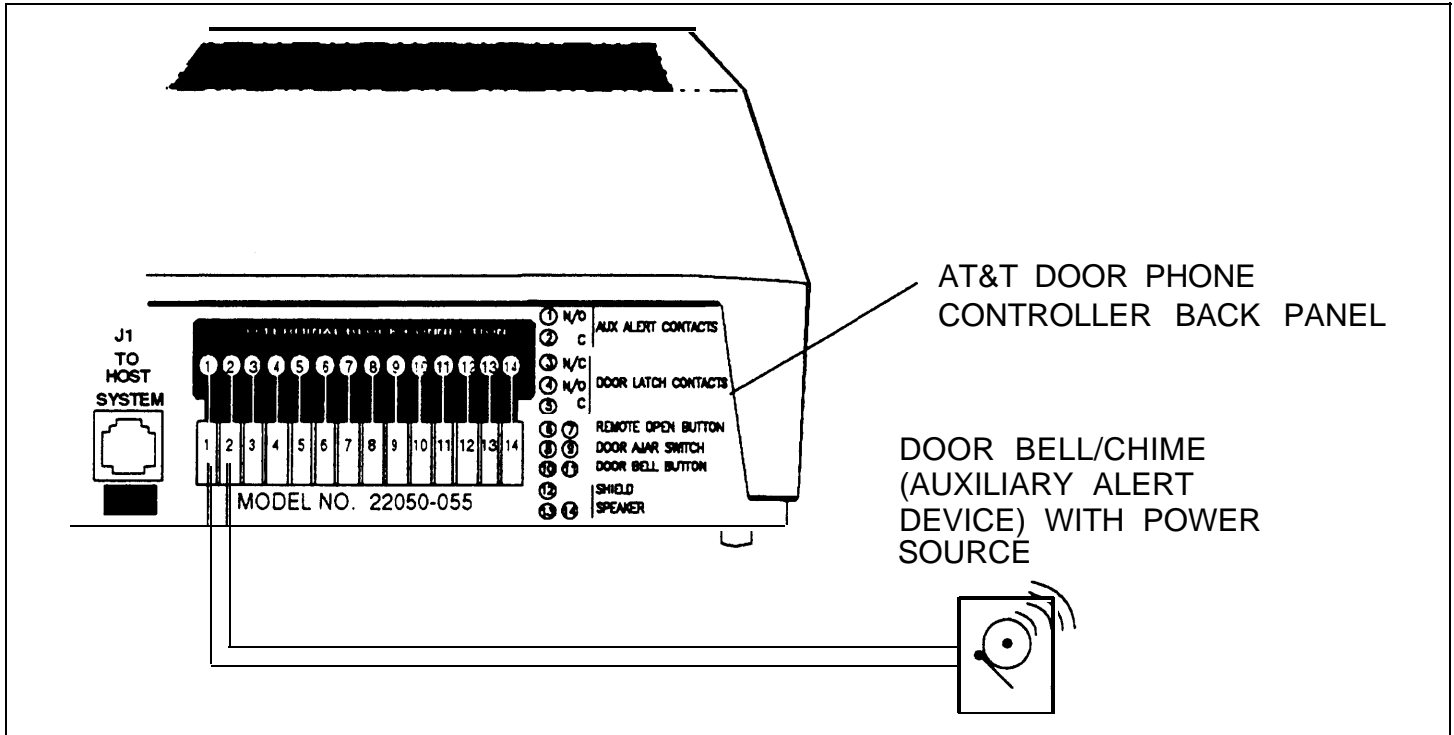

Figure 2-7. Connections for Auxiliary Alert Device (optional)
In most configurations, the Door Phone Controller will cause a telephone to ring when the doorbell button is pushed. An auxiliary alert device (chime, bell, horn, tone generator, etc.) can also be used as an alert to notify the person inside the building that the doorbell button has been pushed (Auxiliary Alert Mode). A low-voltage device (24V or less) is recommended. Follow the steps below (refer to Figure 2-7) for wiring auxiliary alert device (door bell/chime) to the Door Phone Controller:
2. The Normally Open (N.O.) and Common (C.) relay contact, located on the Door Phone Controller back panel (see Figure 2-7), are accessible at the Door Phone Controller terminal block. Wire these to the auxiliary alert device and its power source as instructed by the manufacturer's installation manual.